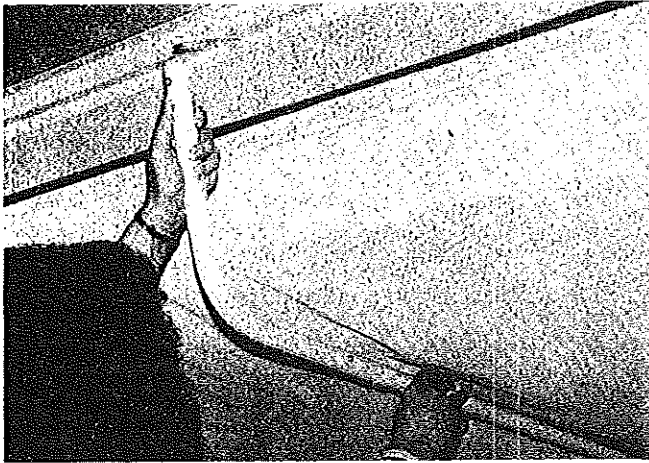

FIGURE 35
34. To completely support the tent enclosure over the bed (front and rear), attach the bed bow support by inserting the straight end into the bed bow. Insert the opposite end of the bed bow support into the metal roof retainer. (See Figure 35 and 36.)
11. Detach both front and rear bed bow supports from the roof retainer and from the bed bow. Lay the bed bow supports under each mattress. See Figure 35.